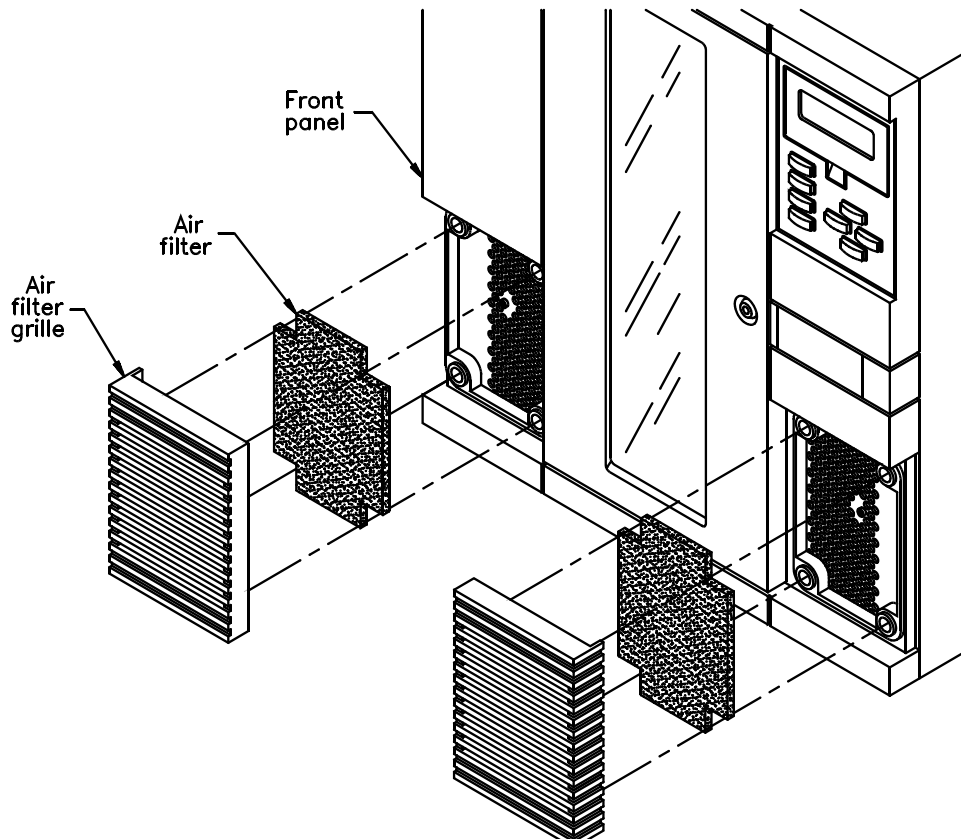

Figure 6-3 Replacing the air filters
The library has two air filters, one on each side of the front panel (see Figure 6-3). You should replace the air filters once a year (or more frequently if the library is operating in a dirty environment). Replacement filters are available from ADIC.
1. As shown in Figure 6-3, push against the outer edge of each air filter grille and pull the grille off the front panel.